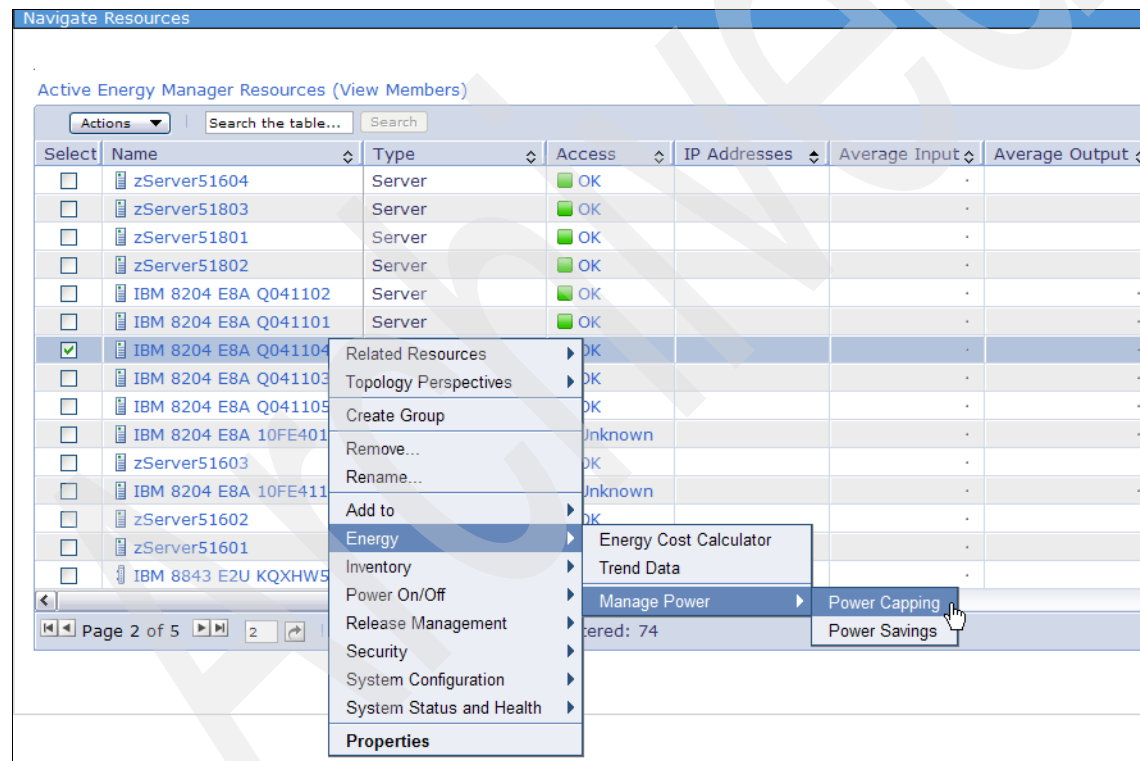

Figure 7-18 Setting a power cap for a single power managed system - 1
2. Right-click a resource and select **Energy** → **Manage Power** → **Power Capping** (Figure 7-18).